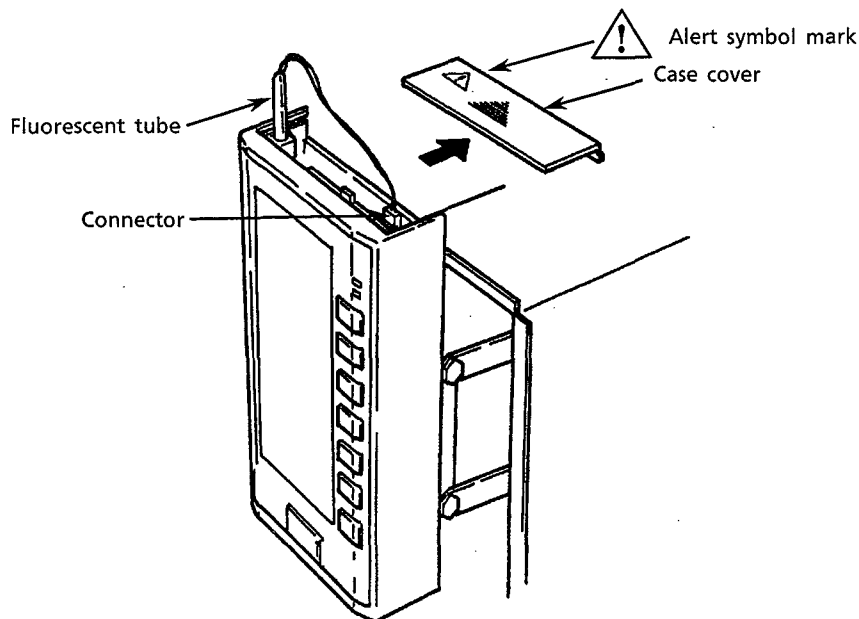

Figure 11.4 Replacing the Fluorescent Tube
- ① Swing up the front panel.
- ② Detach the case cover at the top of the front panel.
- ③ Disconnect the connector of the fluorescent tube, and pull up the fluorescent tube (see Figure 11.4).